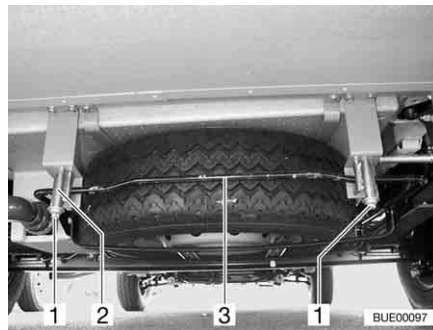

Fig. 279 Spare wheel support (basket)
- Loosen the nuts (Fig. 279,1) on the right and left rear hooks (Fig. 279,2) of the spare wheel support.
- Pull the bar (Fig. 279,3) slightly upwards. At the same time, pull down the hooks and unhook the bar.